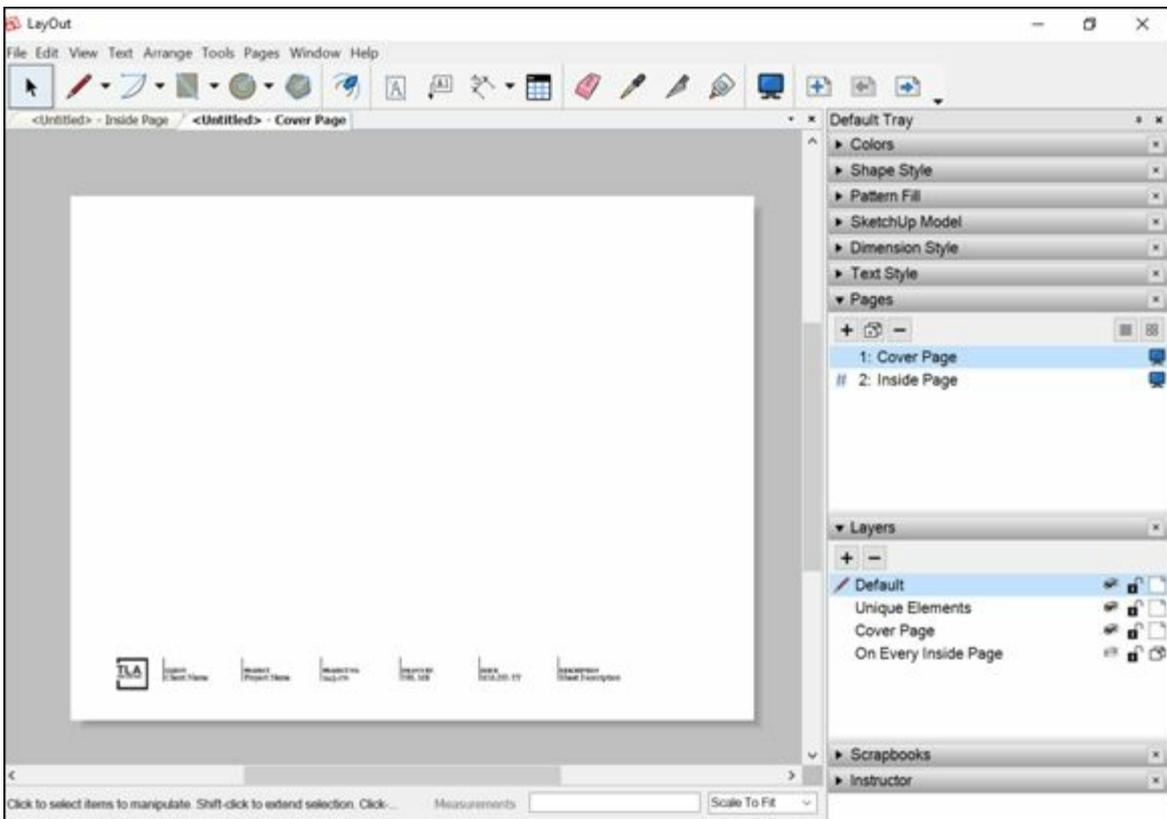

FIGURE 14-2: Pages and layers enable you to control what appears where in a document.
Many LayOut templates have multiple pages and layers, as shown in Figure 14-2. When you use pages and layers together, they give you a lot of control over what appears where in your document:
The element becomes hidden on the selected page. In Figure 14-2, notice that Cover Page is selected in the Pages panel. To create a custom cover page, the On Every Inside Page layer is hidden.
- » **To keep track of what each page and layer does**, give each one a descriptive name, similar to the names you see in the template shown in Figure 14-2. To name a page or layer, double-click its name, and the name becomes editable.